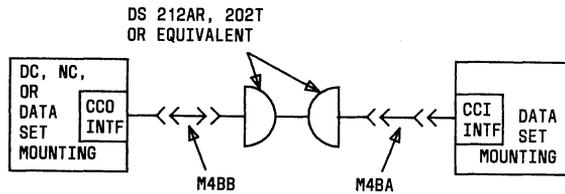

Fig. 33—DCD - Other Special Purpose Connection
3.11 The control channel may be extended from the CC-OUT port to the data mounting's CC-IN port via a 1200-bps voiceband data link for remote access (Fig. 33). The data link may consist of DSs 212AR over dial-up facilities or DSs 202T over 4-wire private line facilities. Two especially coded cords, M4BA and M4BB, serve to connect the appropriate CC-OUT and CC-IN interfaces to the 1200-bps data sets.